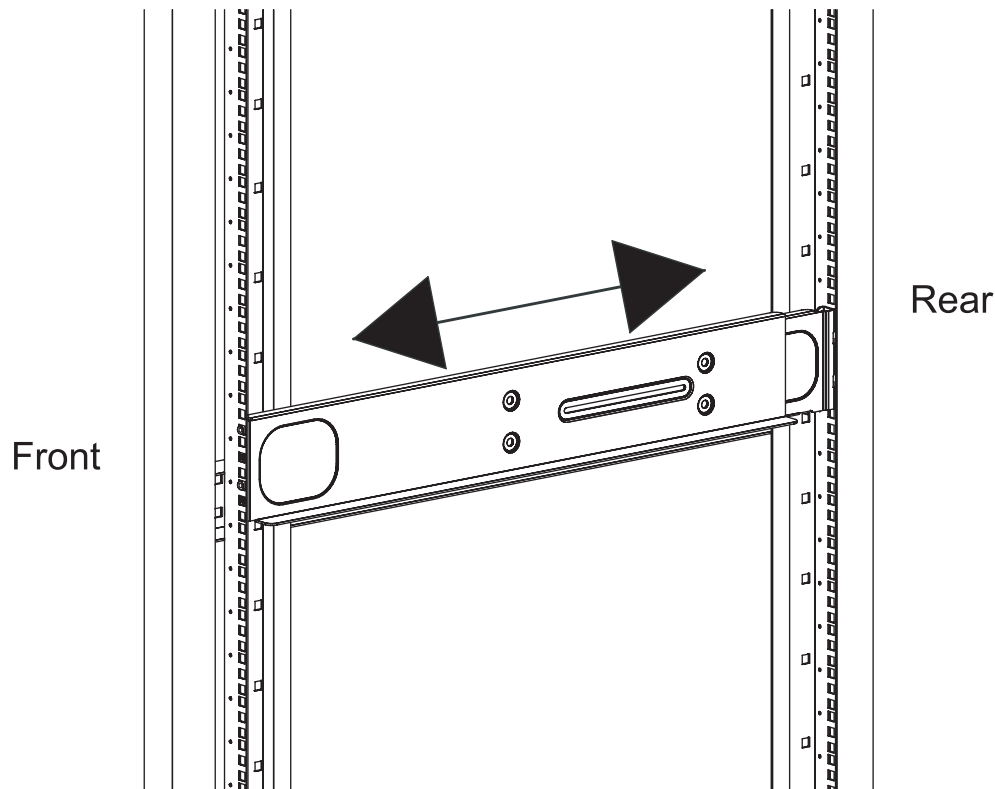

Figure 2-2. Installing the Left Rail
4. Slide the rails sections apart to match the depth of the rack. Position the rails with the template and secure the front of each to the front of the rack with two flathead screws, then secure the back of each rail to the rear of the rack with two flathead screws (see Figure 2-2).